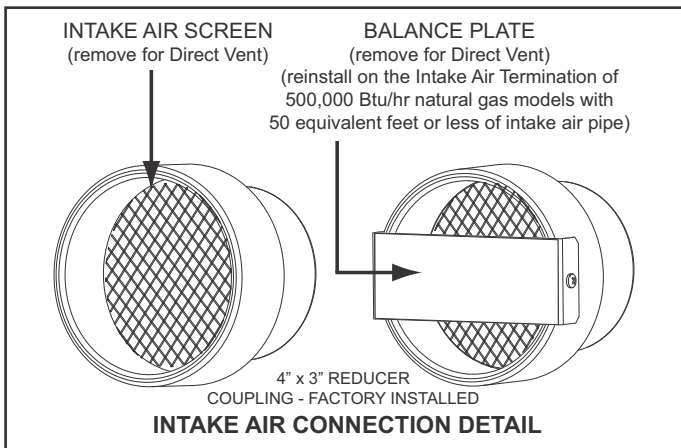

Figure 17
- Ensure the Balance Plate and Intake Air Screen on the Intake Air Connection are both removed before connecting the intake air pipe to the water heater, see Figure 17.
- BTH 500 NATURAL GAS MODELS ONLY: install the balance plate (removed in the previous step) on the Intake Air Termination if the installed equivalent length of the intake air pipe will be 50 feet or less. Discard the balance plate for all other models or if the installed equivalent length of the intake air pipe will be more than 50 feet. See Figure 17.